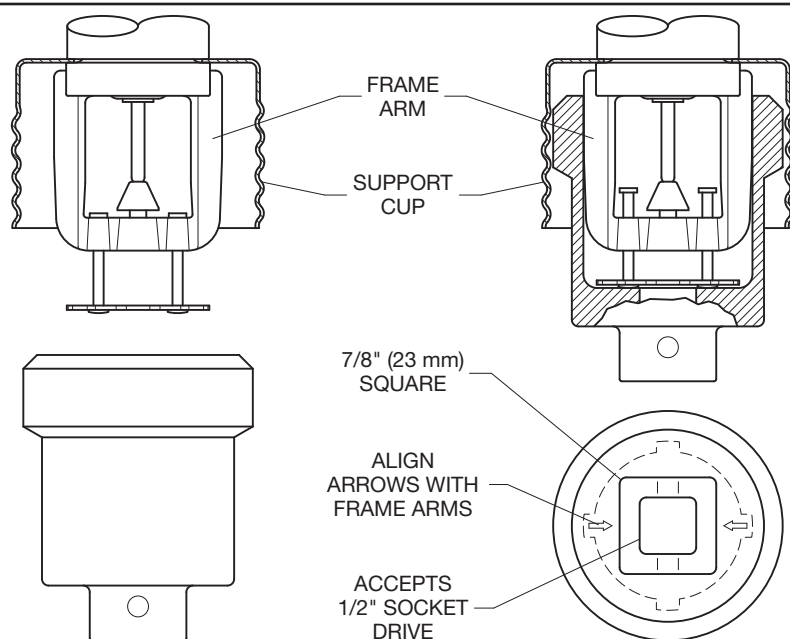

FIGURE 3
- the RFII Sprinkler Wrench (Figure 3) on the Wrench Flat.